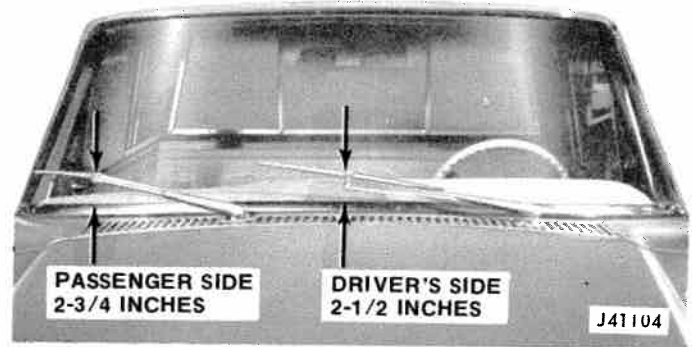

Fig. 17-12 Wiper Arm Park Position - Cherokee-Wagoneer-Truck
(2) To install, position auxiliary arm (if so equipped) over pivot pin and engage retainer clip. Push wiper arm over pivot shaft. Be sure that pivot shaft is in park position and wiper arm is positioned as shown in fig. 17-12.